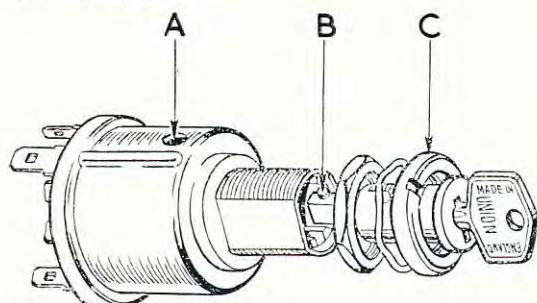

FIG. G10. The ignition switch.
The “Lucar” connections from the wiring harness should be checked periodically to ensure good electrical contact. The switch body may be released from its mounting by removing the plated nut “C”, Fig. G10.
The lock is retained in the body of the switch by a spring-loaded plunger (B, Fig. G10). This may be depressed with a pointed instrument through a small hole in the side of the switch body (A) and the lock assembly withdrawn after the whole unit has been detached from the electric box.